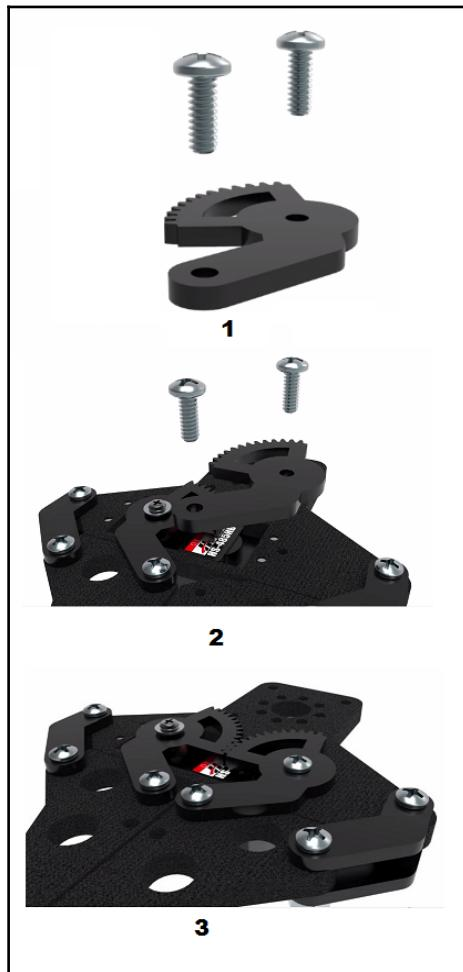

Figure 7.8: Assembling the left-side acetal gear arm. Image courtesy of ServoCity (<https://www.servocity.com/parallel-gripper-kit-a>)
10. Connect the left-side acetal gear arm, as shown in the *Figure 7.8*, using the screws that are provided: